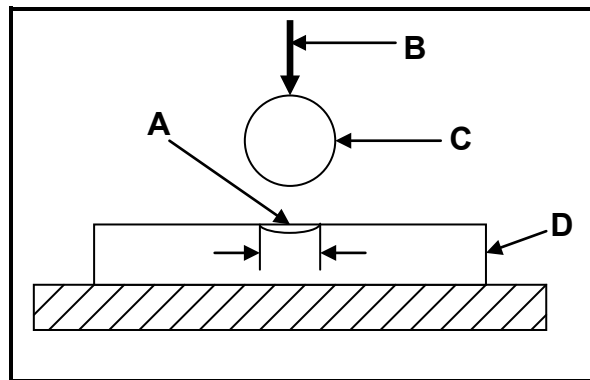

FIGURE 3.1
- 3.2 Princess uses the Brinell hardness tester to test the hardness of a specimen given to her by the supervisor. FIGURE 3.1 shows the specimen under test.